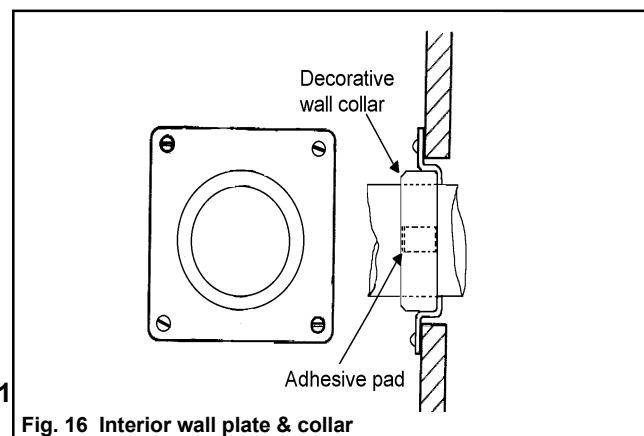

Fig. 16 Interior wall plate & collar
- 10.16 Remove the backing paper from the adhesive pads on the wall plate vent securing brackets. Push the decorative wall collar firmly inside the dished center of the wall plate onto the adhesive pads (see fig. 16).